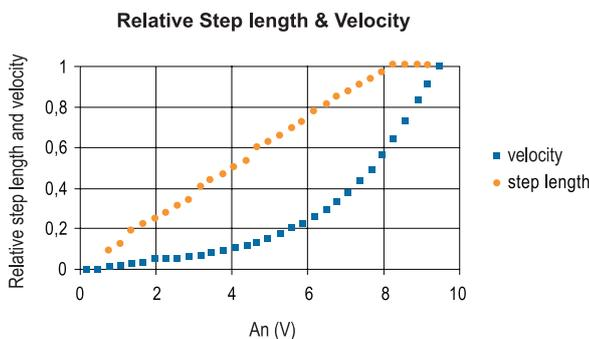

Figure 1. Resulting relative step length and velocity for a given voltage level of the A_n control signal.
8. Motor is now ready to run, varying the voltage of the *An* signal to create motion. For an *An* voltage level less than ± 0.6 V the motion is extremely slow. Below ± 0.3 V the motion is stopped. For voltage level above ± 0.6 V the motor velocity is set according to figure 1. Positive voltages refer to forward motion.
In stepping mode, the average velocity is governed by both cycle step length and the delay after each drive cycle. As seen in Figure 1. below, the step length is linear to A_n , reaching maximum length at $\pm 8\text{ V}$. A signal of $\pm 9.6\text{ V}$ is enough to reach maximum velocity, whereas higher voltages are acceptable, e.g. $\pm 12\text{ V}$.
After each step cycle, there is a delay according to the A_n signal, where after the step length for the next cycle is determined from a lookup table. At minimum velocity, the step delay is around 9 ms. The resulting step frequency depends on the step cycle time as well, which is roughly 1.5 ms using the LL10 linear Piezo LEGS motor (motor dependant). The velocity can therefore differ somewhat from the curve shown in Figure 1. A 0.3 ms delay is inserted before the first step to allow the analog signal to settle, and an extra 5 ms delay is added after the first step in order to make one-step operations easier. In order to minimize overshoot tendencies at target position, the A_n signal is checked for a stop command ($A_n < 0.6$) after every half step cycle, in which case the remaining step cycle will be truncated. However, a detailed control of the cycle step length is only done at the end of each full cycle.